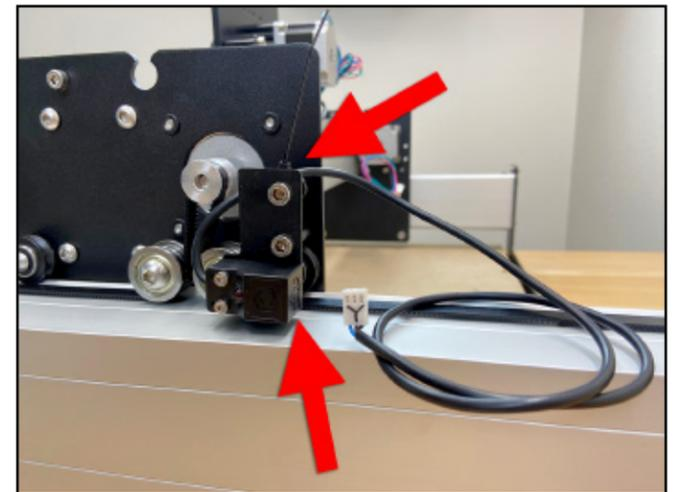

Figure 6-9
5. Use the 4mm hex key and two (2) M5×8mm socket head cap screws to install the mounting plate to the two 30mm standoffs on the **OUTSIDE** of the Y2-rail, with the switch to the outside of the plate and facing the rear. See **Figure 6-9**.
6. Use one (1) cable tie to secure the proximity switch cable to the upper standoff. See **Figure 6-9**.
7. Label the Y-Axis proximity switch cable connector with a "Y" as shown in **Figure 6-9**.